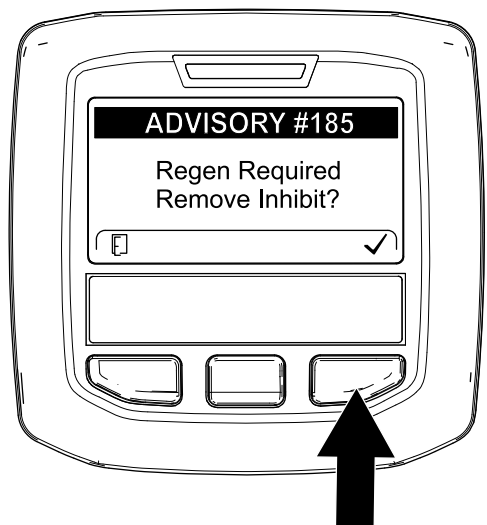

Figure 67
**Note:** If INHIBIT REGEN is set to ON, the InfoCenter displays ADVISORY #185 (Figure 67). Press button 3 to set inhibit regeneration setting to OFF and continue with the reset regeneration.